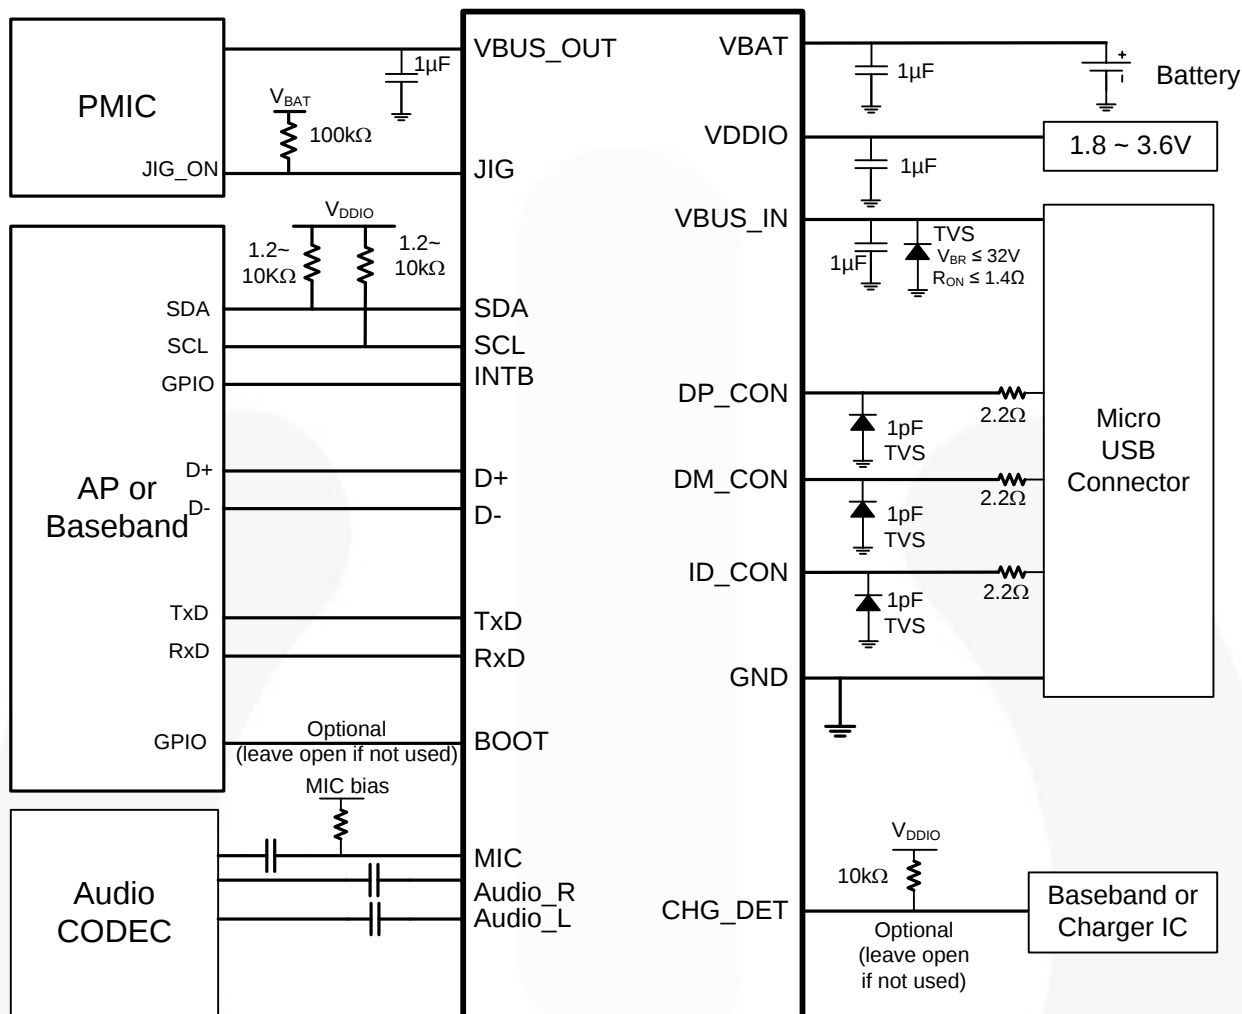

Figure 27. Reference Schematic
- Add as large a decoupling capacitor as possible ($\geq 1\mu\text{F}$) between the V_{BAT} pin and GND to shunt any power supply noise away from the FSA9280A. Also add decoupling capacitance at the PA (see the *reference application schematic in Figure 27 for recommended decoupling capacitor values*).
- Add 33pF shunt capacitors on any PCB nodes with the potential to collect radiated energy from the phone transmitter. At a minimum, add these 33pF capacitors to the MIC pin (see *Figure 27*).